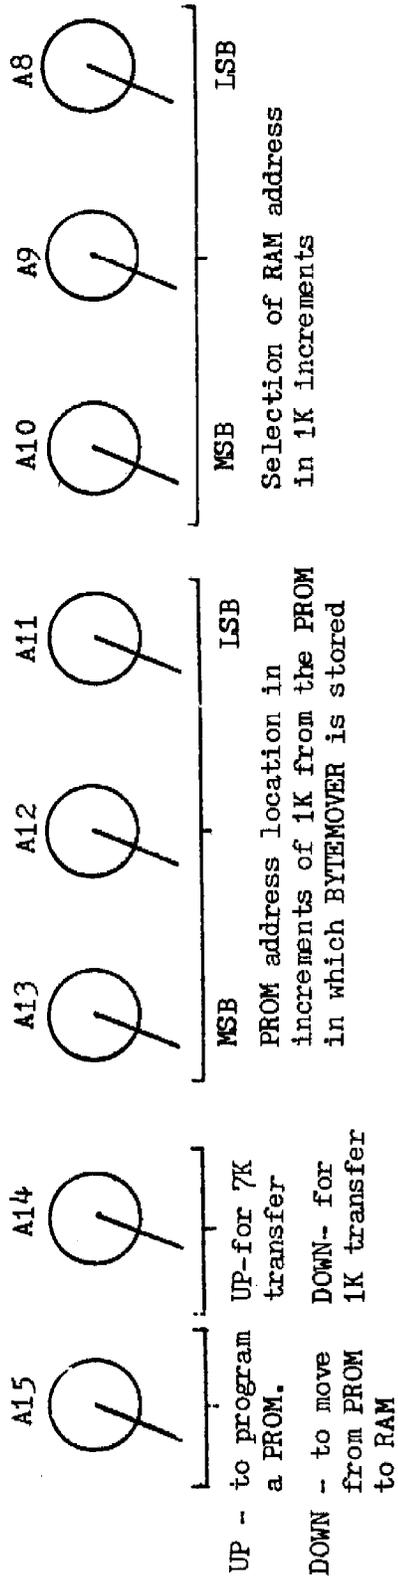

FIGURE 2. FUNCTION OF THE SENSE SWITCHES IN THE BYTEMOVER PROGRAM.
4) Now set the sense switches for the task to be done, referring to Fig. 2.